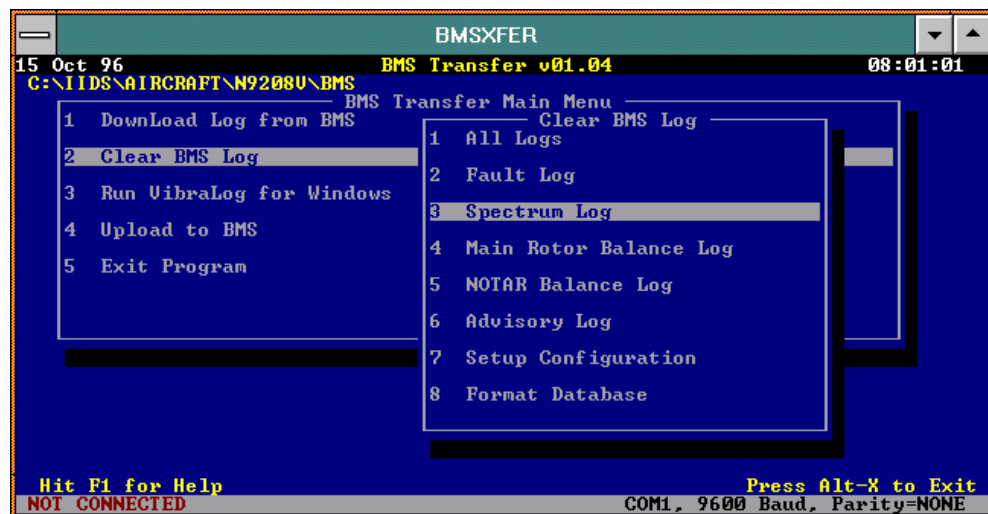

Figure 63. BMS Clear Logs Menu Screen
3. Select log to clear using the (↑ ↓) arrow keys, or press the menu option number (1, 2, 3, etc.), and press the ENTER key (refer to Figure 63).